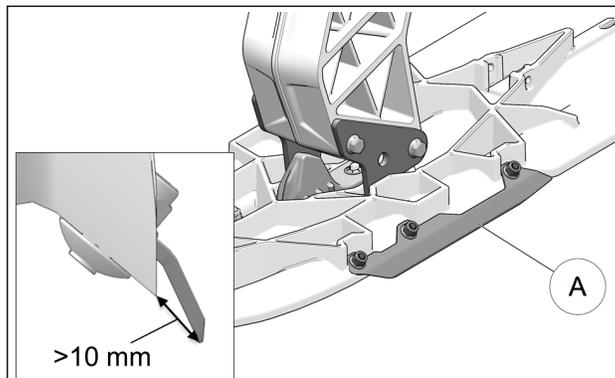

Figure 39
Verify the Side runners (A) mounted on the ski. If they show flat spots bigger than 1 mm along the edge, they should be re-sharpened. If the measurement between the edge of the ski and the edge of the runner is under 10 mm (13-14 mm when new), the part should be replaced. See Figure 39.